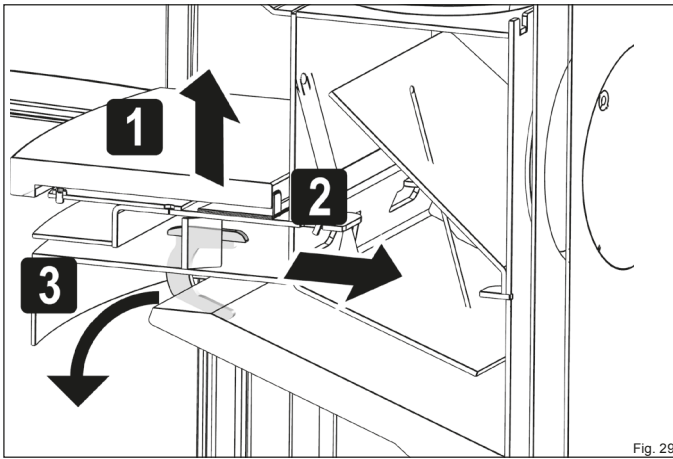

Fig. 29
- ▶ Carefully release the firebrick retainers (Fig. 29).